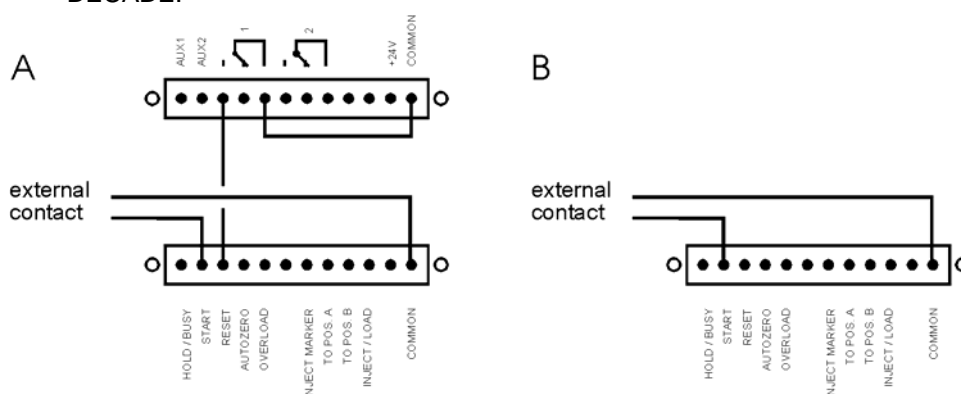

Fig. 13. Input contacts needed for external control of the DECADE (slave mode) A: until DECADE software version 3.00 and B: from version 3.00 and higher .
1. Connect a hardware trigger of the autosampler to 'START' on the rear panel of the DECADE as indicated in Fig. 13. A contact closure is
- By pressing RUN the system is ready for automated operation. The time file is started by an external contact closure from the autosampler (Fig. 13). The duration of this contact closure must be at least 100 ms. Each time a run is started the 'AUTO RUN' screen appears. After the 'RESET' command (via relay1), the 'AUTO SET' screen is displayed.
There are at least two ways to activate a contact by TTL-low. This can be done by making a contact closure of the input with common (see Fig. 13, 'START' command) or by using an external TTL contact which is made low (see Fig. 13, 'RESET' command). In the latter case it is important that the status of the external contact is known, and that the apparatus is connected to the same ground (by the mains power supply) as the DECADE.